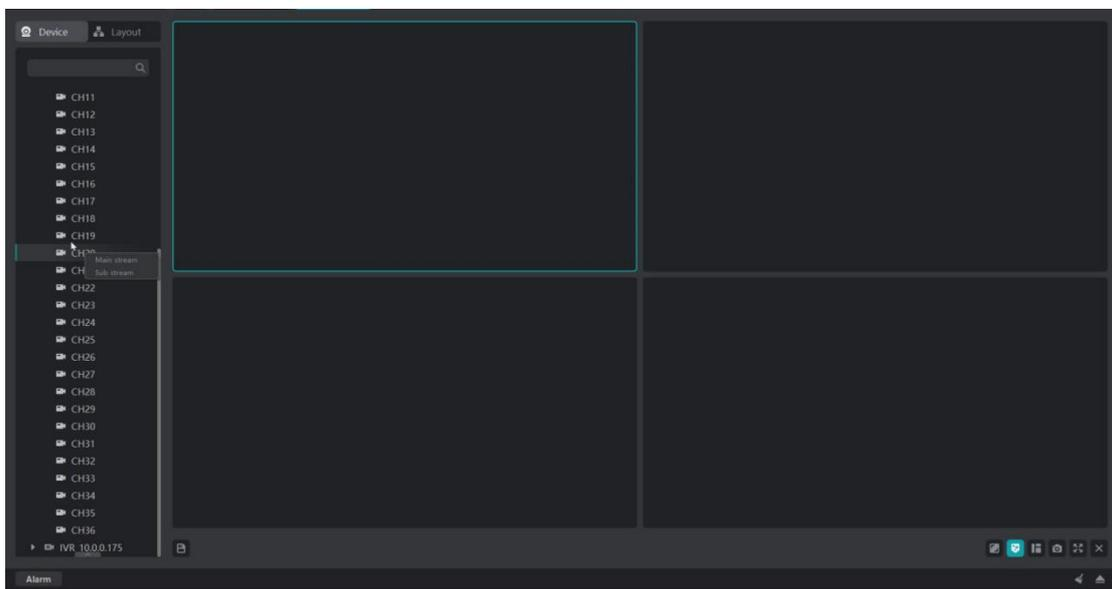

Figure 5-3
- 3 select [master stream] or [substream], as shown in figure 5-3